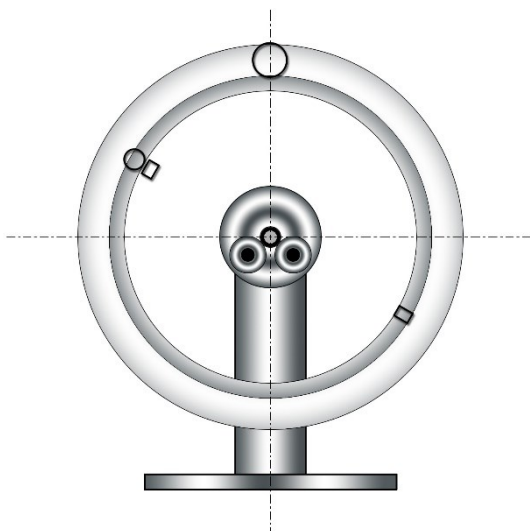

Figure 3: Resting position neutral rim with mounted tyre
6. Pull the tire onto the neutral rim and let it swing out. The lightest place is now up again (see Fig. 3). Mark this spot in a different colour.